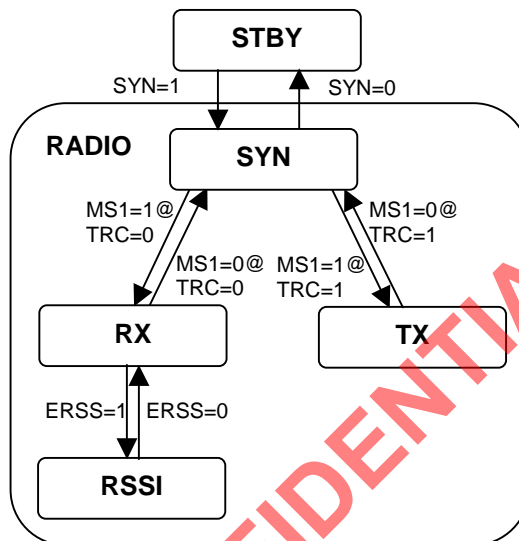

Figure 3: RADIO State Sub-state Diagram
The RADIO (Radio) state has four sub-states: SYN (Synthesizer), RX (Receiver), TX (Transmitter), and RSSI (RSSI measurement). The entrance and exit sub-state of the RADIO state is the SYN sub-state. The SYN sub-state can be entered only from the STBY state when the SYN bit (**Mode control register** bit 2) is set to "1" and the input pin MS1 is "0". At the same time, the ECAL (**Calibration control register** (II) bit 1) bit must be reset to "0", that is, the calibration process is done or there is no calibration needed. If the ECAL is set to "1", the state transition to the RADIO state by setting the SYN bit will take effect until the ECAL bit reset manually or automatically. The sub-state diagram is shown in Figure 3.